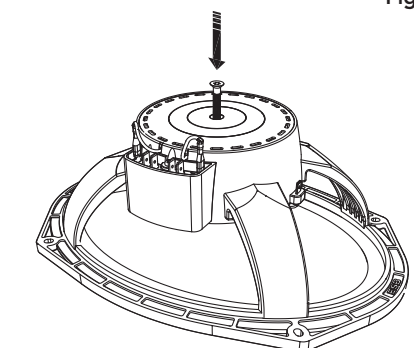

Fig. 6
- 6- Put the rear cup back (note the two pins must be located on two slots on side wall) and secure everything with the (short) M4x8 mm screw (Fig 6).